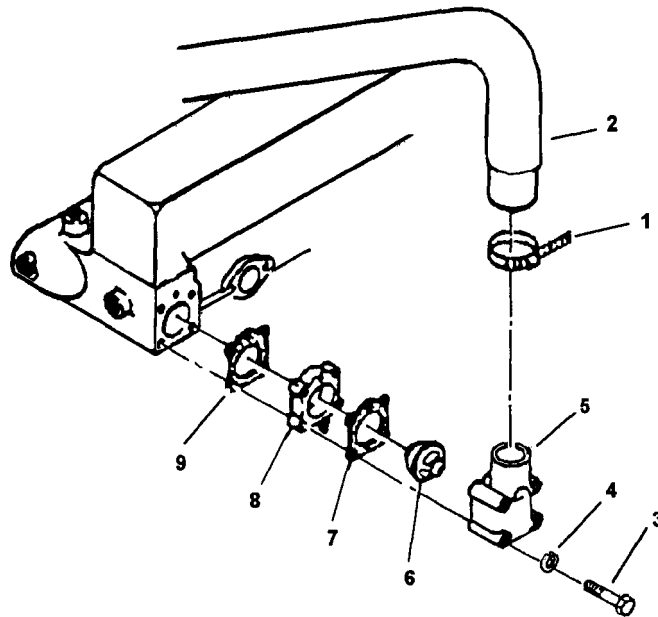

Figure 4-26. Coolant Thermostat, Removal and Installation
- (1) Remove left side fan guard (paragraph 4-38a (1)).
- (2) Refer to paragraph 3-27 and drain the radiator.
- (3) Refer to paragraph 4-20 and remove the coolant temperature transmitter.
- (4) Loosen clamp (1, Figure 4-26) and remove radiator hose (2).
- (5) Remove screws (3) and lockwashers (4) to remove thermostat housing (5), thermostat (6), gasket (7), spacer (8), and gasket (9).